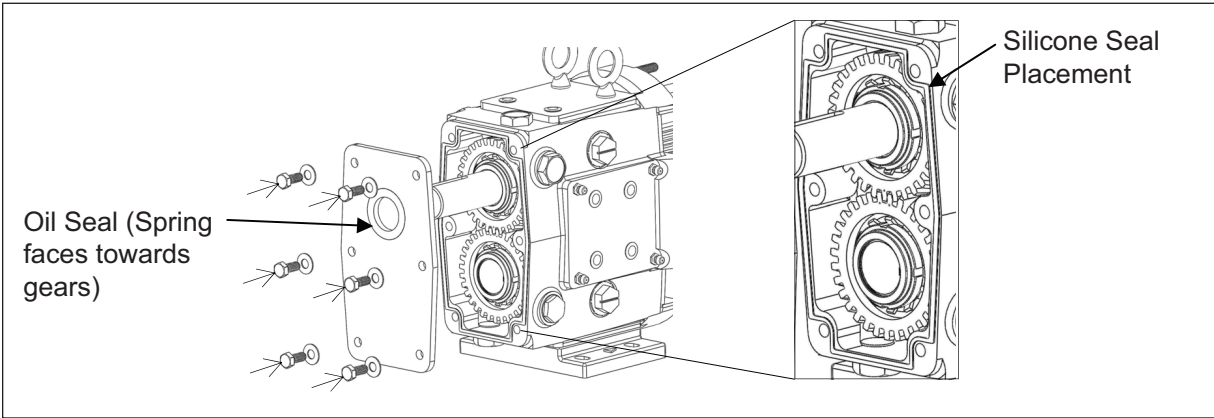

Figure 56. Installing Gear Casing Back Cover
- Apply a light film of lubricant to the inside and outside diameters of the gear case cover oil seal. Using a press, install the oil seal into the back cover so that it is flush with the outside of the back cover and the spring is facing the gears. Apply a silicone sealant to the edges on the back of the gear case making sure there are no gaps. Slide the back cover onto the gear case, making sure that the shaft is centered on the oil seal, and secure it with the retaining bolts (Figure 56). It is important not to cut the oil seal on the shaft keyway; tape may be used to cover any sharp edges on the shaft. Install the oil plugs and fill the gear case with the recommended amount of oil using Table 3 on page 18.